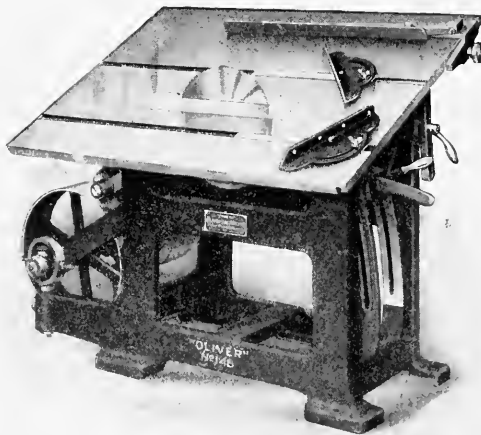

Fig. 233
90. **The Circular-saw** is the most generally useful machine, and the rapidly revolving saw cuts with speed, ease, and accuracy. Large circular-saws are used for sawing logs. In the smaller sizes for shop-work the saw projects through a bench or table-top (Fig. 232) on which the wood to be cut rests. As both splitting and cross-cutting saws are used, most of the common operations of hand-sawing can be done with the circular-saw, and also many special operations. Adjustable guides or gauges are fitted to the saw-bench top so that different lengths, widths, and angles can be cut. Fig. 232 is a typical illustration of a modern circular-saw bench. Fig. 233 shows the